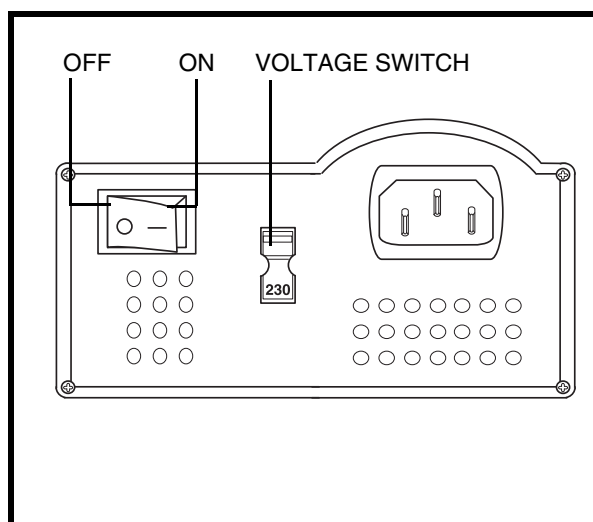

Figure 11. Charger On/Off and Voltage Switches
The off-board charger supplied with your scooter is equipped with a 115/230 voltage switch. Confirm that this switch is in the proper position for your locality. If you are not sure what the voltage is in your country, contact your local electricity provider before inserting the charger power lead plug into your electrical outlet. If the setting is incorrect, the charger will not function properly. Slide the voltage switch to the appropriate position. See figure 11.
7. Turn the charger on. See figure 11. We recommend that you charge the batteries for 8 to 14 hours.